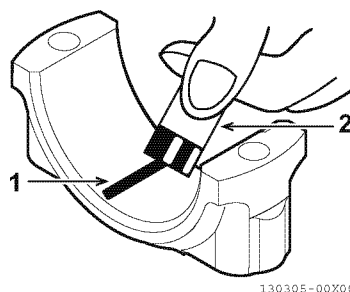

Fig.12-3
- 6 - Compare the width of the flattened part of the PLASTIGAGE (1, Fig.12-3) to the graduation marks on the package (2, Fig.12-3). The mark that most closely matches the width of the flattened PLASTIGAGE will indicate the bearing oil clearance.